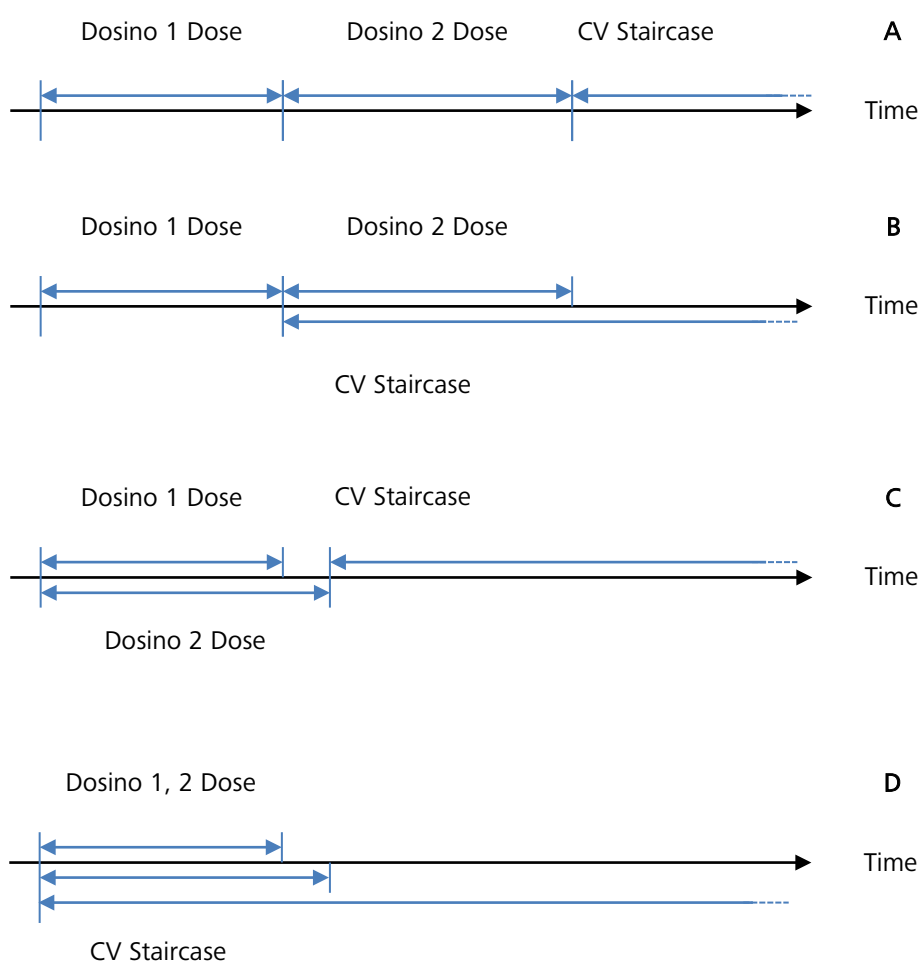

Figure 46 – Experiment flow for four different Liquid handling configurations
To illustrate this, four examples are illustrated in Figure 46. In this figure, the duration of the *Dose* commands is shorter for Dosino 1 than for Dosino 2.
- **Figure 46, A:** Dosino 1 and Dosino 2 have parallel execution disabled. Both Dosino need to finish the *Dose* command before the *CV staircase* command can start.
- **Figure 46, B:** parallel execution is enabled on Dosino 2 and disabled on Dosino 1. Dosino 2 starts dosing immediately after Dosino 1 is finished. The *CV staircase* command starts as soon as Dosino 2 starts dosing.
- **Figure 46, C:** parallel execution is enabled on Dosino 1 and disabled on Dosino 2. Dosino 2 starts dosing at the same time as Dosino 1. Only when Dosino 2 is finished can the *CV staircase* command start.
- **Figure 46, D:** parallel execution is enabled for both Dosino 1 and Dosino 2. All three commands start at the same time.